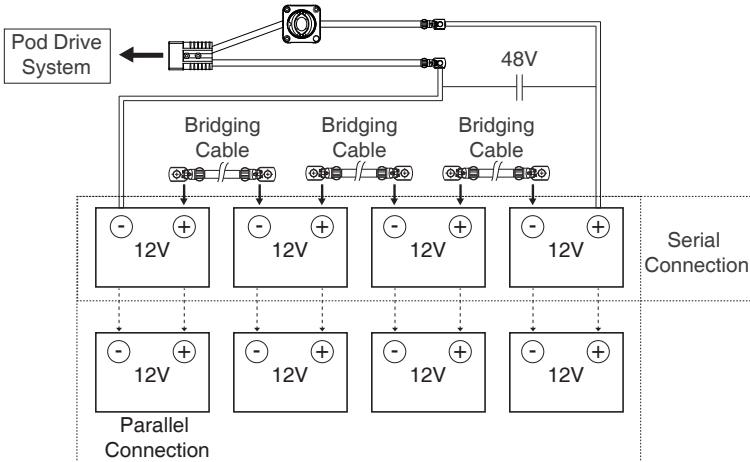

Figure 4-3
Users can also choose to make a 48V battery by connecting four 12V batteries in series. When connecting four 12V batteries in series to make a 48V battery set to supply power for NAVY 3.0 Pod Drive, use bridging cables to connect batteries in series (Figure 4-3). Make sure to connect the cable with main switch attached to the positive terminal and connect the other cable to the negative terminal.
-  Never reverse the polarity. Please pay more attention when connecting batteries in series and/or in parallel configuration. Always double check by referring to Figure 4-3.